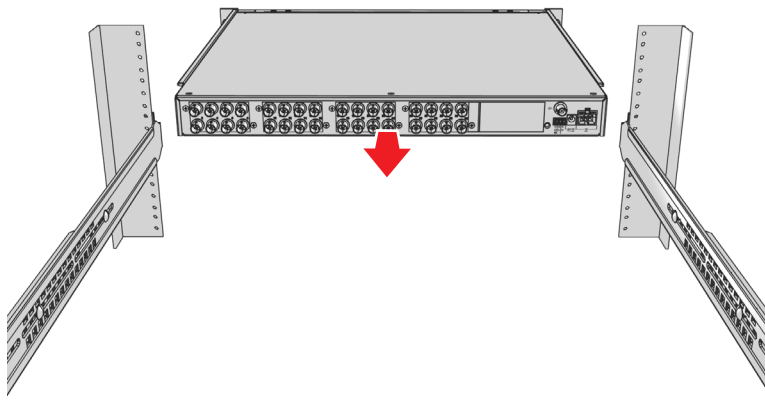

Figure 12. Mounting the Transmitter/Receiver into a Rack
8. Place the unit onto the support rails by sliding the chassis brackets onto the rails (refer to Figure 12). The unit should slide in and out of the rack easily.